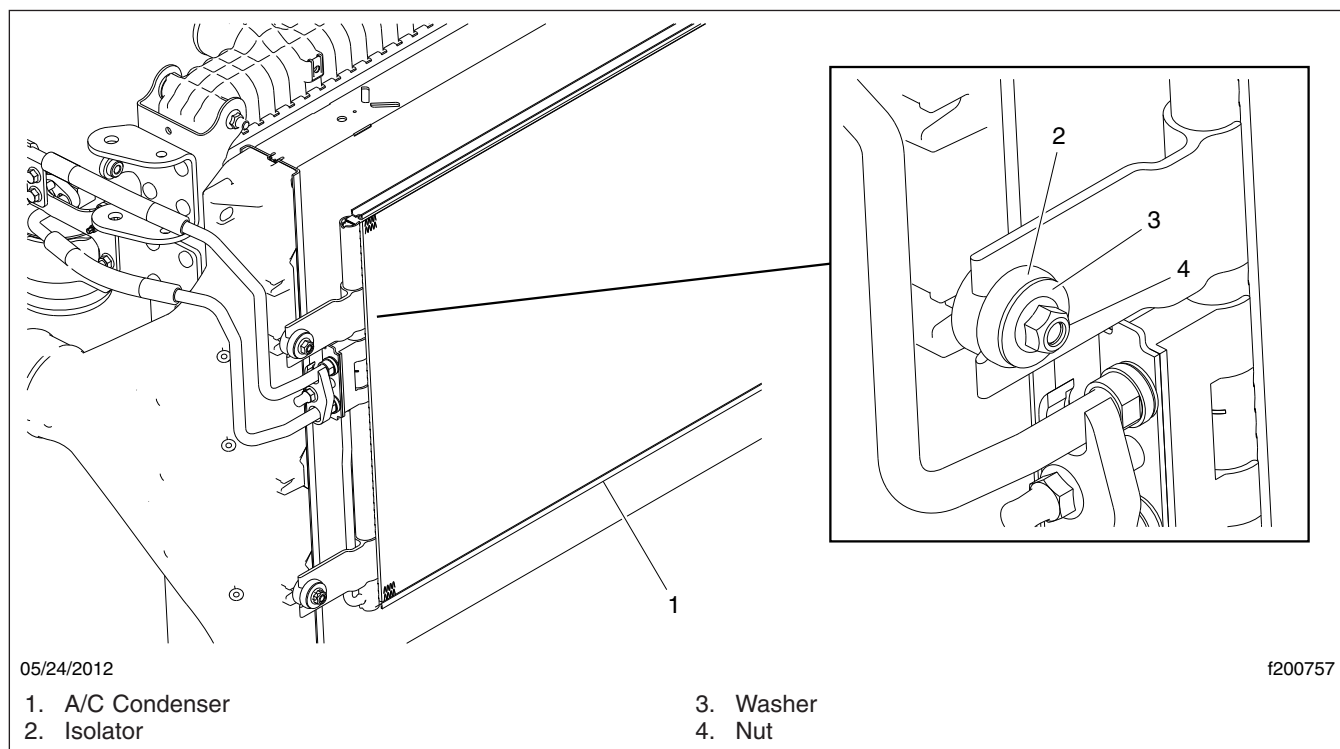

Fig. 9, A/C Condenser Installation
- 10.3 Unbolt the A/C condenser from the CAC. See Fig. 9.
- 37.1 Move the condenser into position and secure it temporarily. See **Fig. 9**.